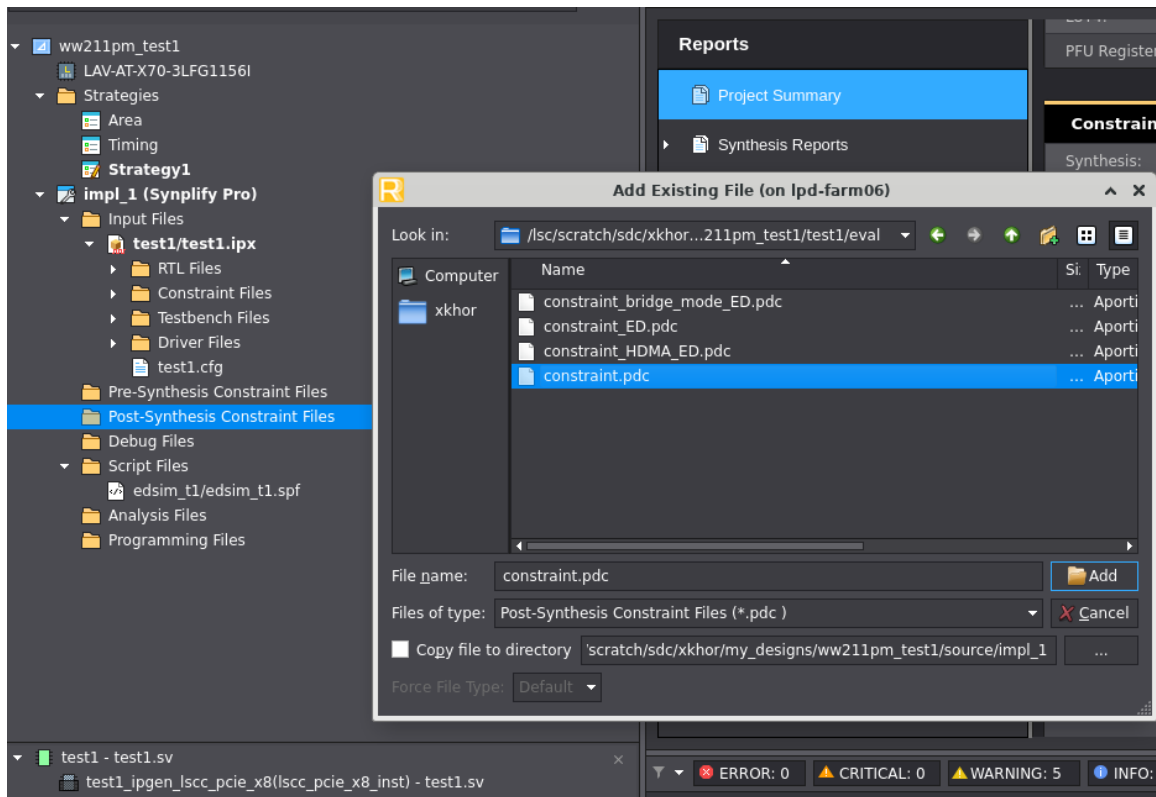

Figure 7.10. Select constraint.pdc from the Eval Folder
8. Refer to the settings in Figure 7.10. Browse to `<project_folder>/<project_name>/<ip_name>/eval/` and select **constraint.pdc**.